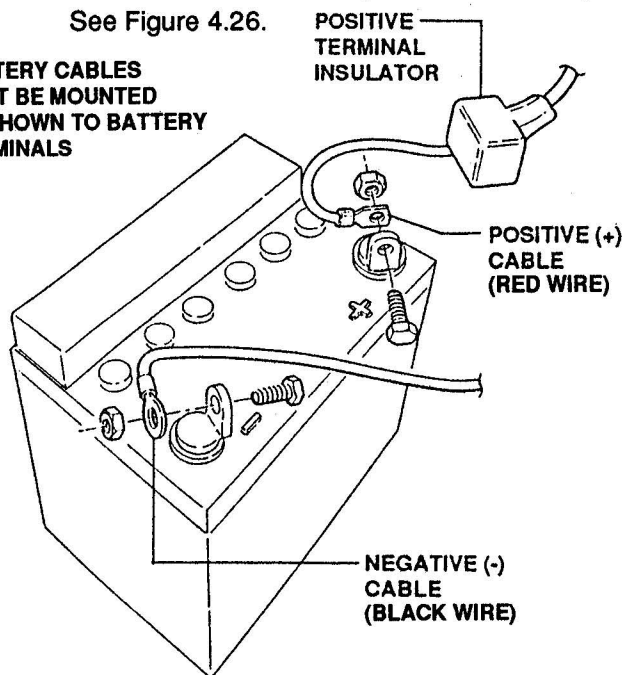

FIGURE 4.26
3. Observe and note cable positions on battery. See Figure 4.26.
Cables must be connected to battery terminals in the proper position as shown in Figure 4.26.